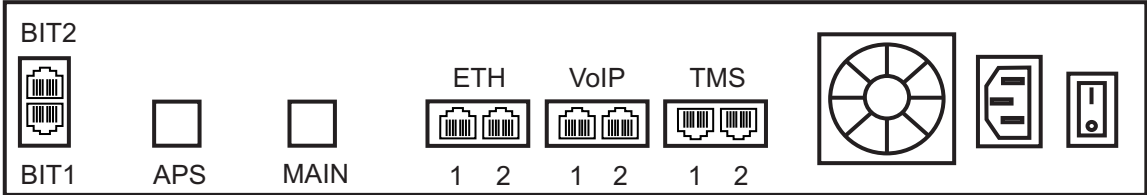

Figure 2.10 Optical Interface to the PSTN
A TMP6400, with one main and one backup OC3 or STM-1 port enables connection to OC3/STM-1 lines. See figure 2.10 on page 21. Refer to table 2.2 on page 21 for a listing of optical interfaces. The default OC3/STM-1 connection is SMF, intermediate reach, (SFP-OC3-IR1) 1310 nm with LC type connectors.
1. Connect a fiber optic cable between the Main port and OC3/STM-1 line, as shown in figure 2.10 on page 21.